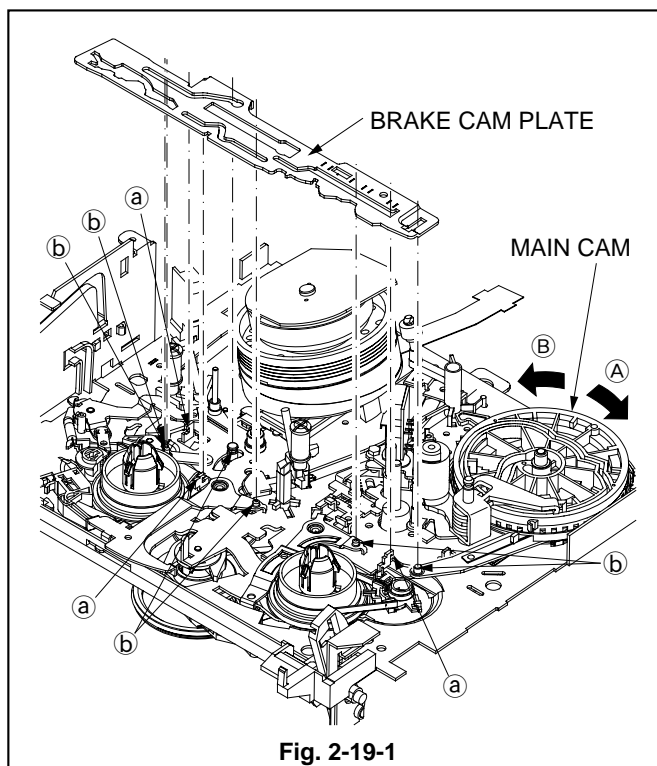

Fig. 2-19-1
1. Rotate the MAIN CAM in the Fig. 2-19-1 in the direction shown by the arrow (A). And move the BRAKE CAM PLATE so that the three catches (a) of the MAIN PLATE ASSY can be released.
3. Install the BRAKE CAM PLATE, inserting the six Guide Pins (b) shown in the Fig. 2-19-1 into the slits of the BRAKE CAM PLATE.
5. Rotate the MAIN CAM shown in the Fig. 2-19-1 in the direction shown of the arrow (B). And move the BRAKE CAM PLATE to hook it to the three catches (a) of the MAIN PLATE ASSY.